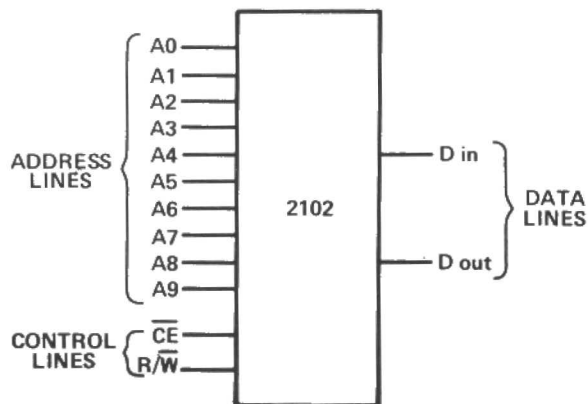

Figure 1. The logic system for a typical RAM IC – the 2102.
To start with we'll look at a typical RAM IC, the 2102. The logic symbol for the device is shown in **Fig 1**. It has 10 address lines, which means that it can address 1024 memory locations ($2^{10} = 1024$). It only has one Data input line however, which implies that each memory location can only store one bit. It is therefore referred to as being one bit wide and is organised as 1024 x 1 bits. In common with nearly all memories it has two control lines; a chip enable or chip select line (CE) and a read/write line (R/W). The final line shown in **Fig 1** is the Data output line.